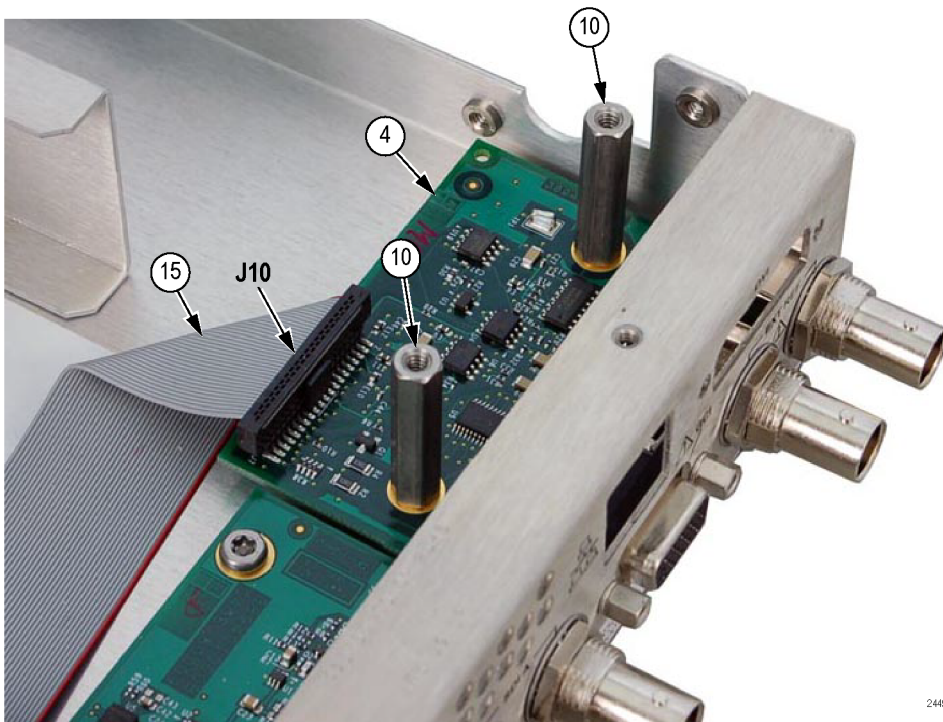

Figure 11: REF board removal
**REF I/O board** To remove the REF I/O board, perform the following procedure. (See Figure 11.)